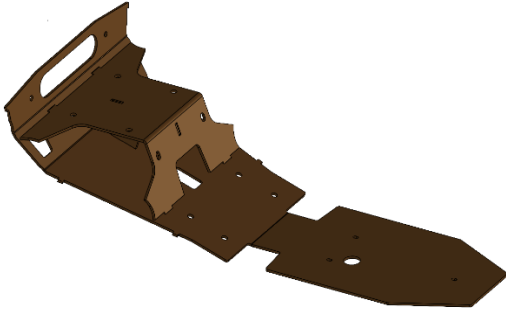

Figure 1
1. Assemble the **Skid Plate**, **Winch Plate**, and **Winch Gusset** by aligning the tabs and slots. Tack weld the assembly. **Refer to Figure 1.**